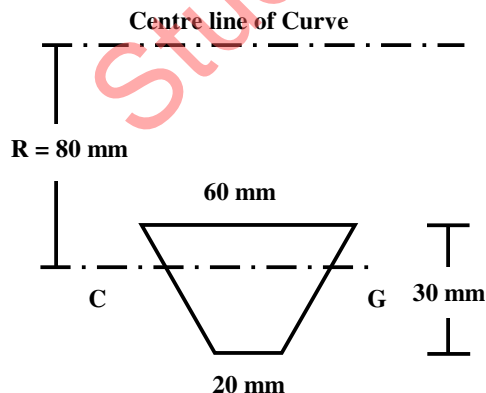

Figure-3 Q-5 (b)
- (b) The trapezoidal section of a curved steel beam is shown in figure-3. The section is subjected to bending moment of 300 Nm. Find and plot the bending stress distribution. **07**